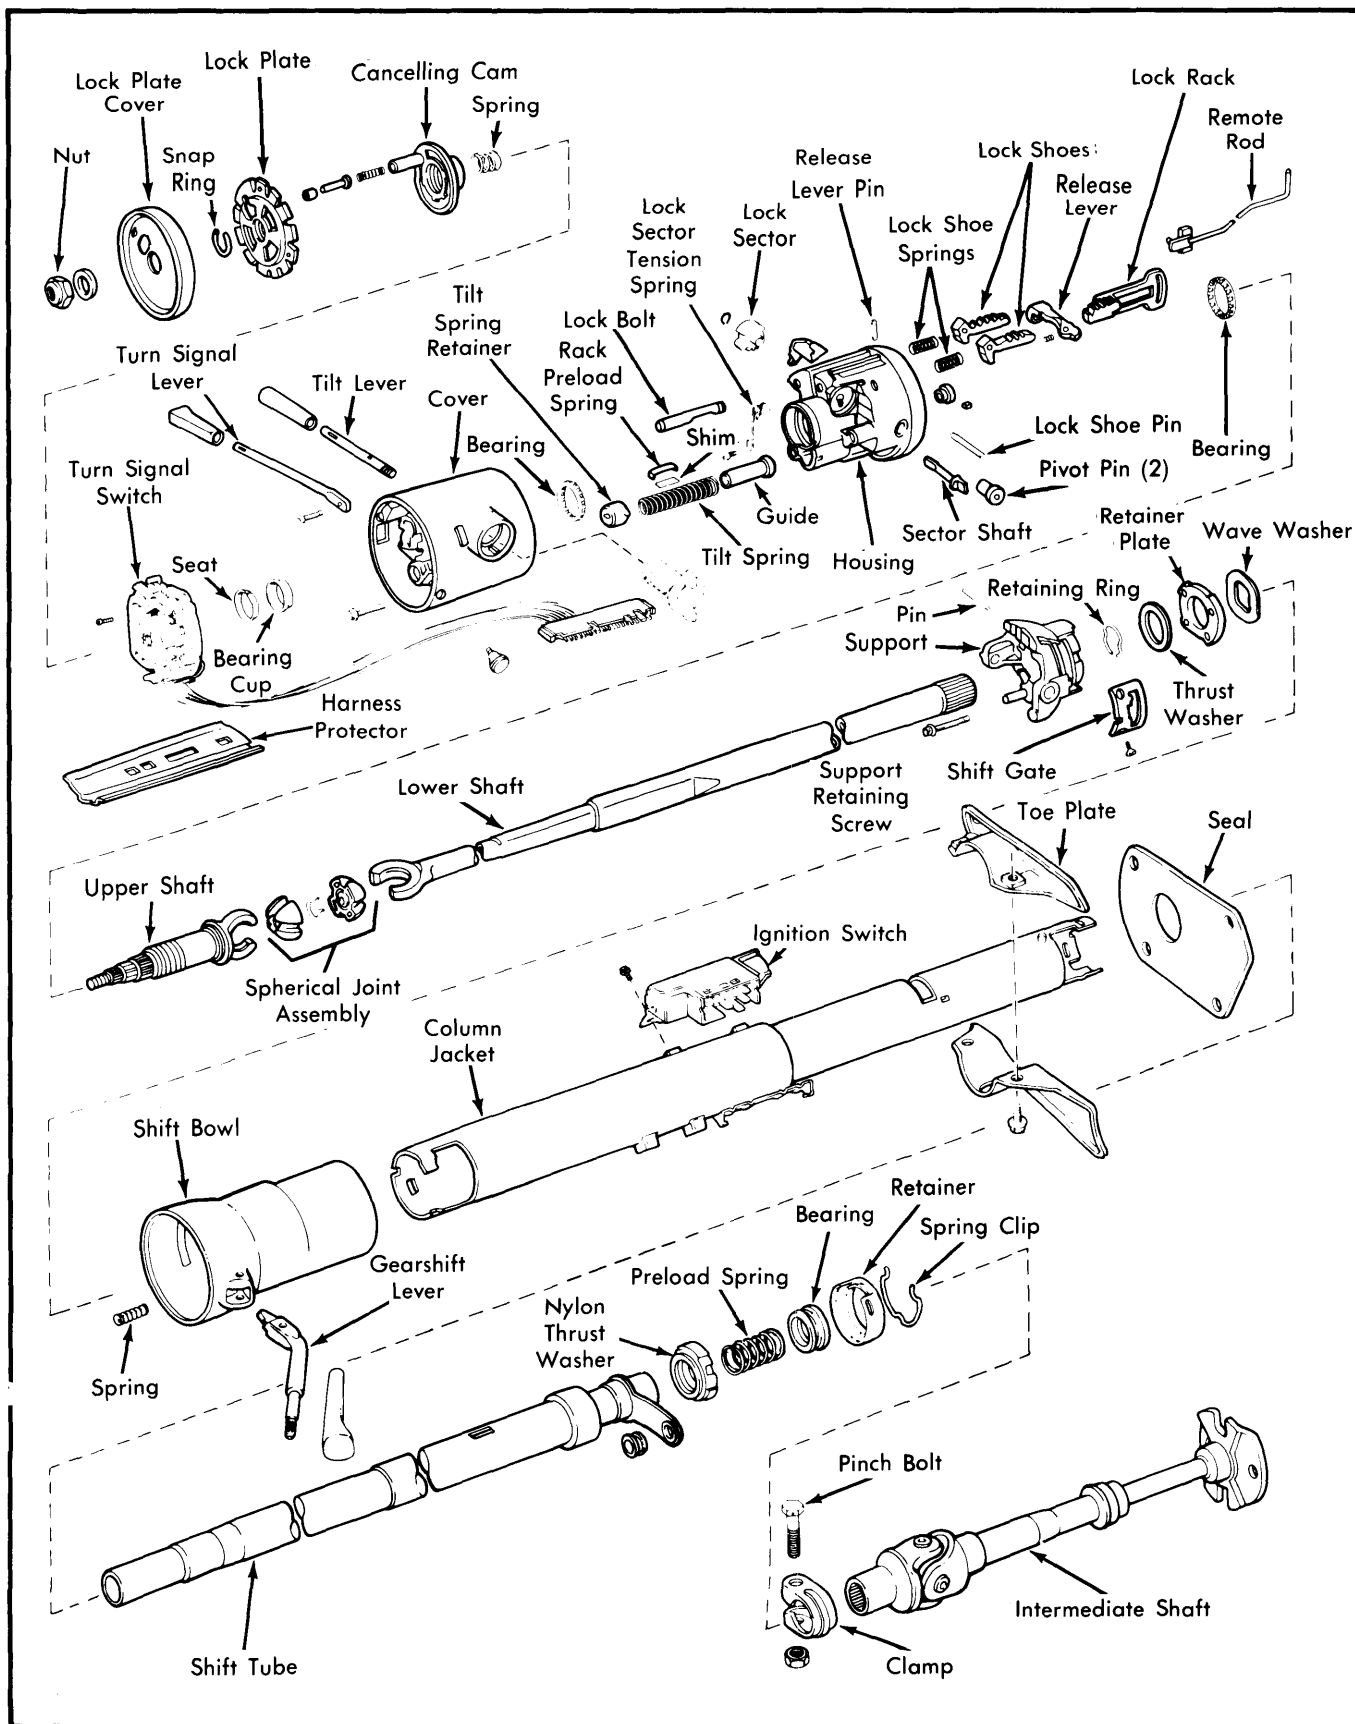

Fig. 15 Exploded View of Tilt Wheel Steering Column (All Except "CJ" & Scrambler Models)
2) Remove steering wheel. Using two screwdrivers, pry anti-theft cover off lock plate. Compress lock plate using suitable tool (J-23653 for American threaded steering shaft nut, J-23653-4 for metric threaded nut). Remove snap ring from groove in steering shaft. See Fig. 15.